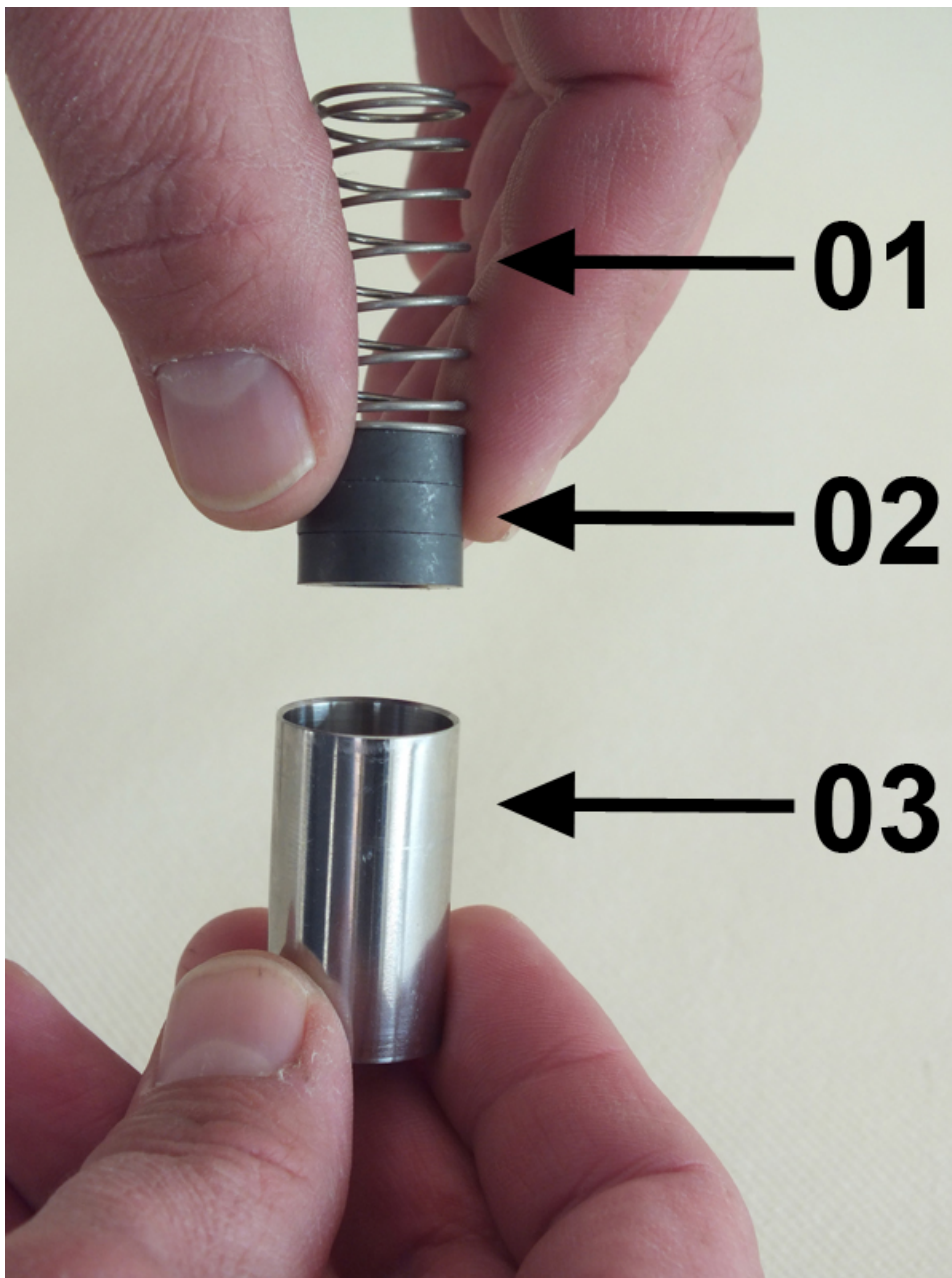

Fig. 43: inner parts
4. ➤ Insert the spring (Fig. 43/01) and magnets (Fig. 43/02) into the float (Fig. 43/03), observing the magnetic polarity (north pole toward the outlet side).